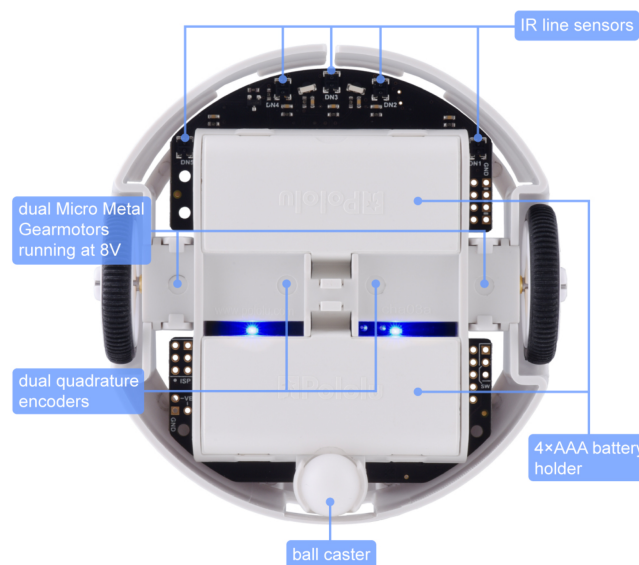

Figure 1.7: Underneath view of the 3pi+ 32U4 robot. The line sensor array are placed at the front.
The 3pi+ 32U4 line sensor array is a separate board that attaches to the main underneath board, placed in front of the robot as shown in Figure 1.7. The board features five line sensors connected to the microcontroller. The five line sensors face downward and can help the 3pi+ robot distinguish a non-reflective (black) line on a reflective (white) surface. Each reflectance sensor consists of a down-facing analog infrared (IR) emitter LED (Light-Emitting Diode) paired with a phototransistor that can detect reflected IR light from the LED. Three of the five sensors are placed in the middle of the board at gaps of about 10 mm and the last two are situated at the far end of both sides such that the total sensor coverage is about 60 mm.